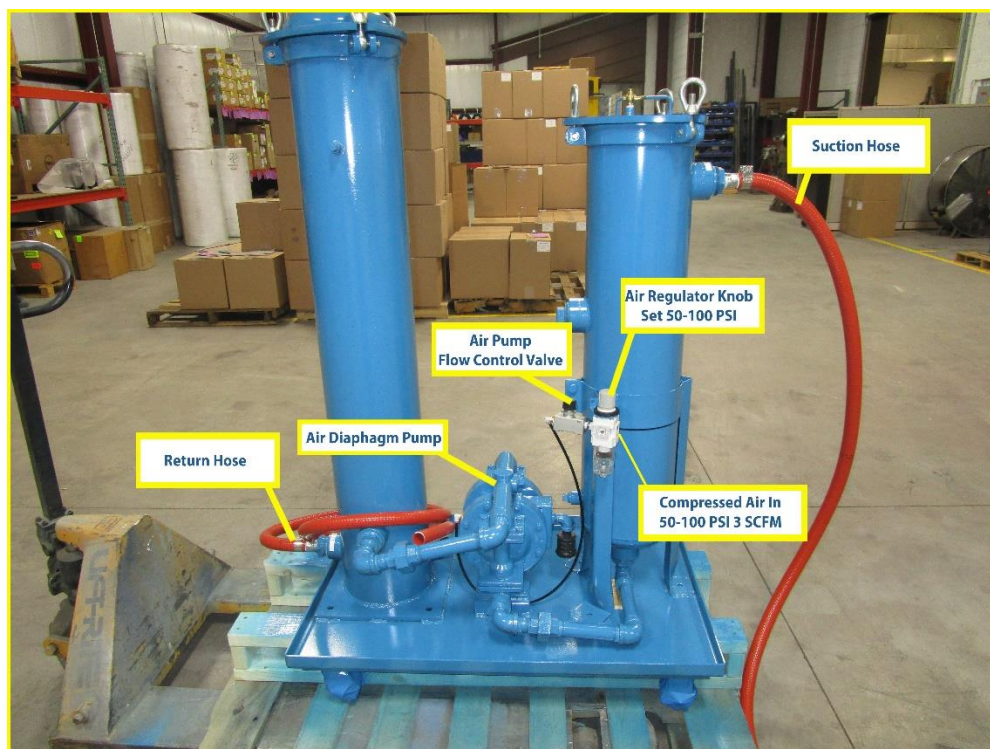

FIGURE 2
4. Close Air Pump Flow Control Valve (Figure 2) to stop pump.